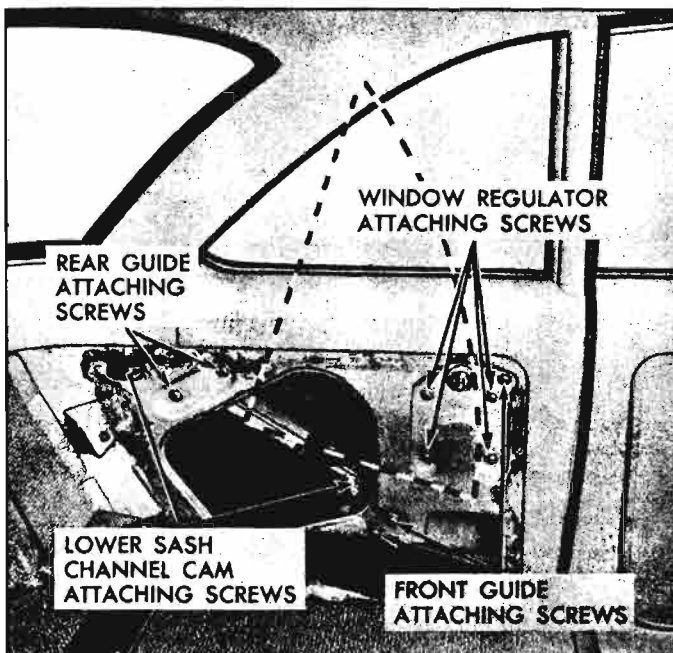

Fig. 10-92—Rear Quarter Window Hardware
2. Partially detach inner panel water deflector sufficiently to remove lower sash channel cam attaching screws (fig. 10-92).
3. Detach window assembly from lower sash channel cam. Tilt window, as indicated by dotted lines in Figure 10-92, and remove window assembly from between quarter panels.
To adjust rear quarter window, remove quarter trim assembly, then carefully cut a small slit at front and rear guide screws (fig. 10-92). Loosen both front and rear guide attaching screws. Operate window to full "up" position making sure window is all the way forward and up into the run channels. Snug-up the upper attaching screw of the front guide and the forward attaching screw of the rear guide. Lower window to the full "down" position; then tighten all attaching screws of both front and rear guides.
3. Remove regulator attaching screws (fig. 10-92), and remove regulator assembly through loading hole.
2. Remove front guide attaching screws (fig. 10-92); disengage guide from roller on window lower sash channel frame and remove guide from between quarter panels.